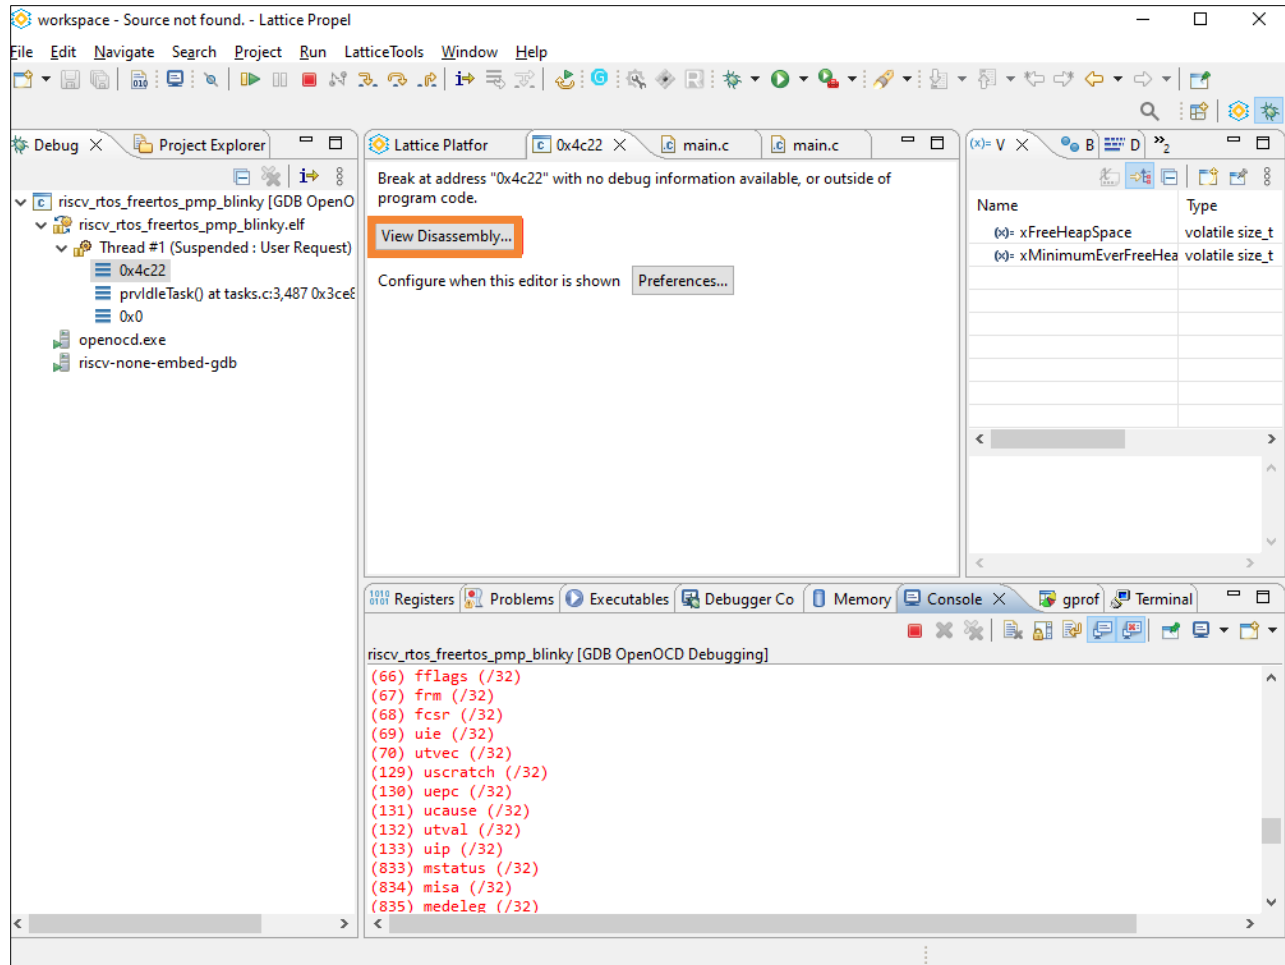

Figure E.3. Debug Perspective 2
- Wait for a few seconds for switching to the debug perspective, as shown in Figure E.3. Click **View Disassembly** to display assembly code or C code.